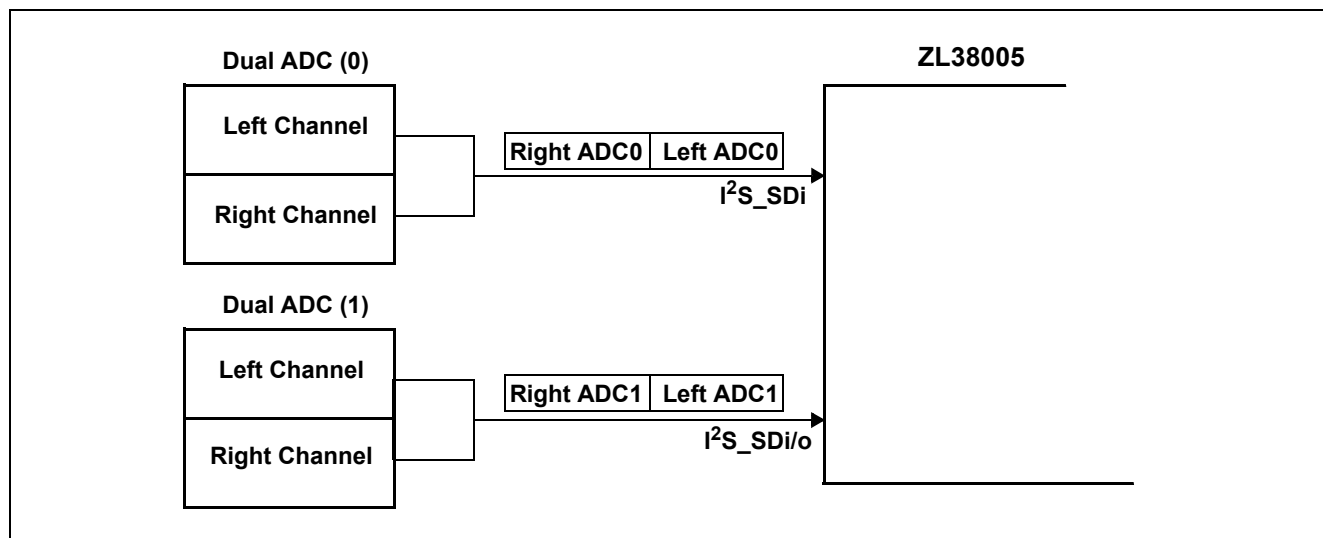
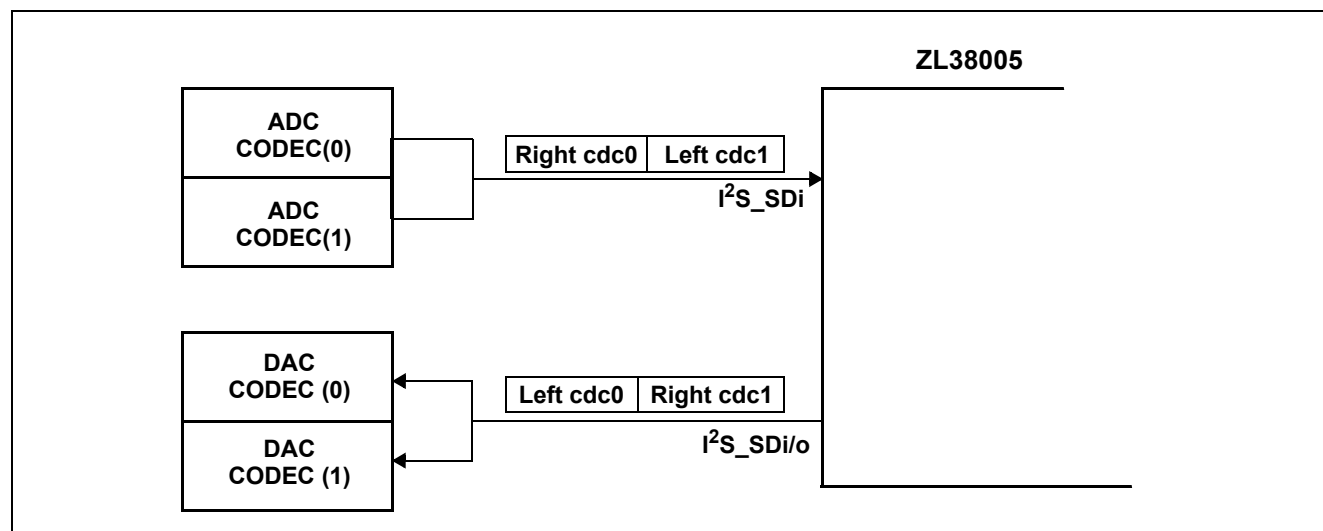

Figure 4 - Dual Analog-to-Digital Converter Configuration
Figure 5 - Dual CODEC Configuration
The I²S interface can support two dual channel Analog-to-Digital Converters (Figure 4) or one dual channel CODEC (Figure 5). In Figure 4 pin I²S_SDi/o is configured as an input (control bit I²SSDi/oSel = 0) so that the four 16-bit channel processing capacity of the DSP is spread across the two input channels from Dual ADC (0) plus the two input channels from Dual ADC (1). See Firmware Manual for I²S port setup.
In Figure 5 pin I²S_SDi/o is configured as an output (control bit I²SSDi/oSel = 1) so that the four 16-bit channel processing capacity of the DSP is spread across the two input channels from the ADCs of CODEC(0) and CODEC(1), as well as the two output channels from the ADCs of CODEC(0) and CODEC(1). See Firmware Manual for I²S port setup.